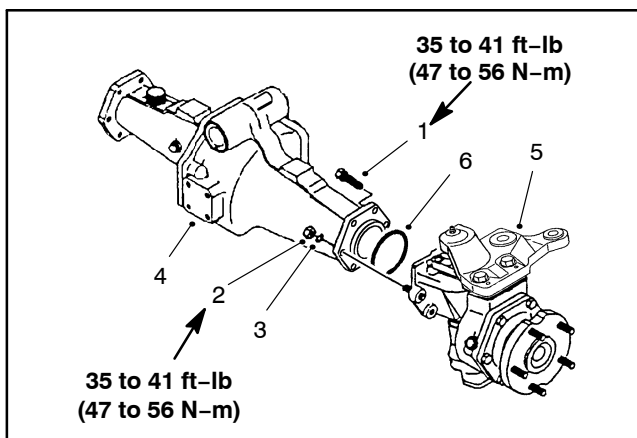

Figure 18
1. Remove the mounting screws, nuts and lock washers. Remove the bevel gear case/axle case assembly and O-ring from the axle support (Fig. 18).